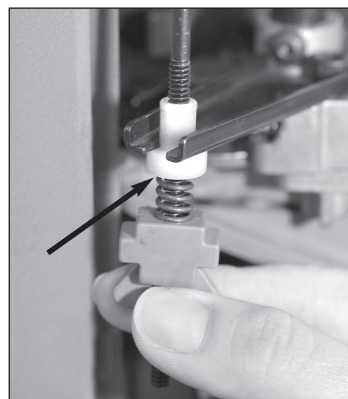

FIG 103
4. Slide the failsafe rod into the failsafe return bracket. Push the shoulder washer up into place (arrow FIG 103) and tighten the blue plastic wing nut until the end of the threaded rod is even with the wings of the wing nut. Now, push forward on the handle as if seating a primer, and tighten the blue wing nut until the spring is partially compressed.